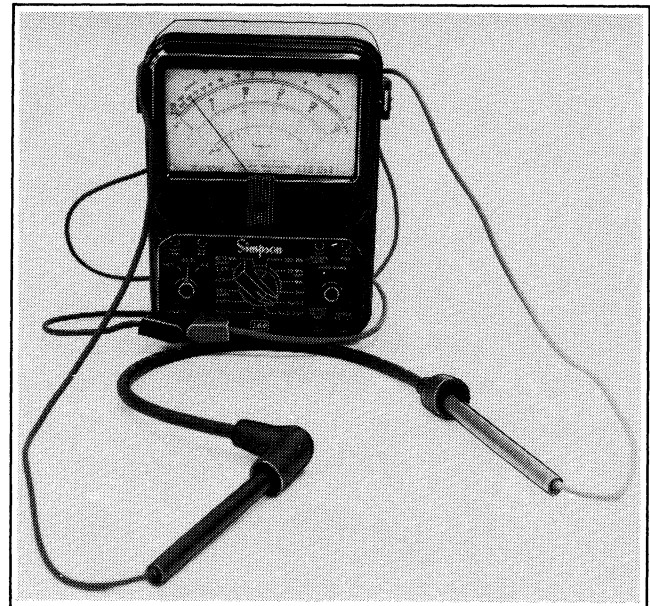

Figure 8-24. Checking Cable Resistance
1. See Figure 8-24. Check cable resistance. Set ohmmeter to RX100. Reading should be 3000 to 7000 ohms per foot. A 16 inch suppression cable will have 4200 to 9100 ohms. Metallic core cable resistance should be 0 ohms.